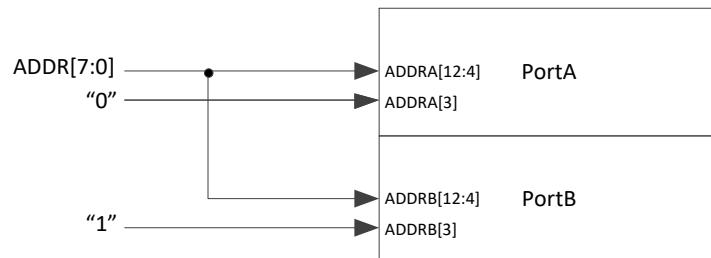

Figure 2-6 Address Line Configuration for TW and RBW Modes in SPRAM Mode
5. Both Port A and Port B address input ports must be connected to the address input simultaneously; ADDRA[3] and ADDR[B[3] must be connected to 0 or 1 respectively (in opposite), as shown in Figure 2-6: